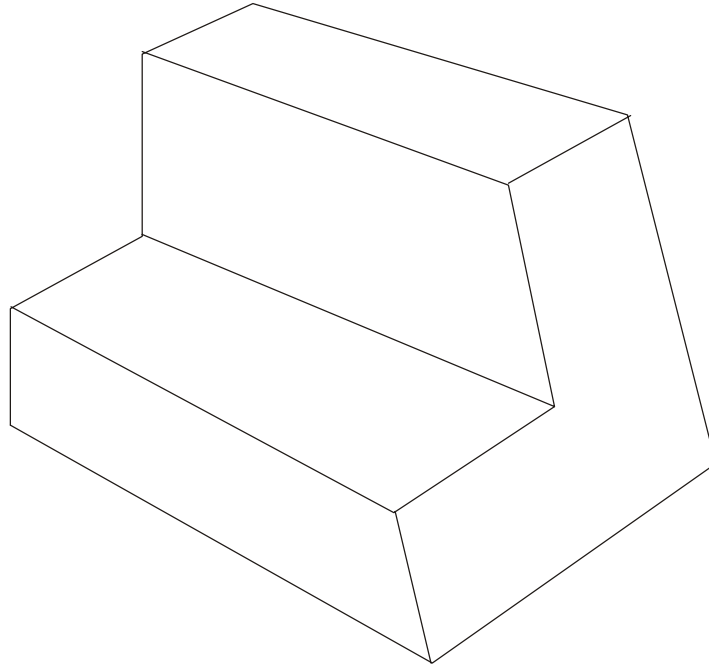

Figure 3-24. Oblique drawing.
5. Oblique drawings are easier to draw than isometric drawings, but they contain more inherent visual distortion. See Figure 3-24.